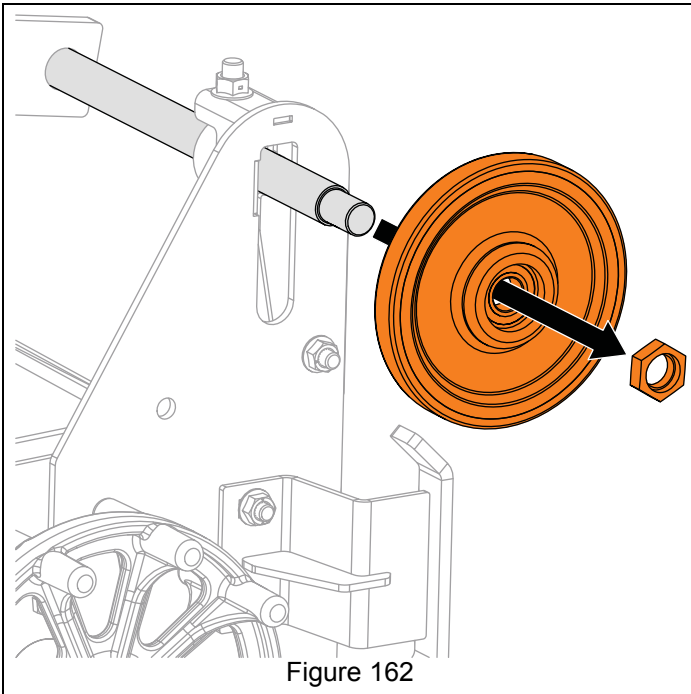

Figure 162
5. Remove track from carriage assembly. See Figure 162.